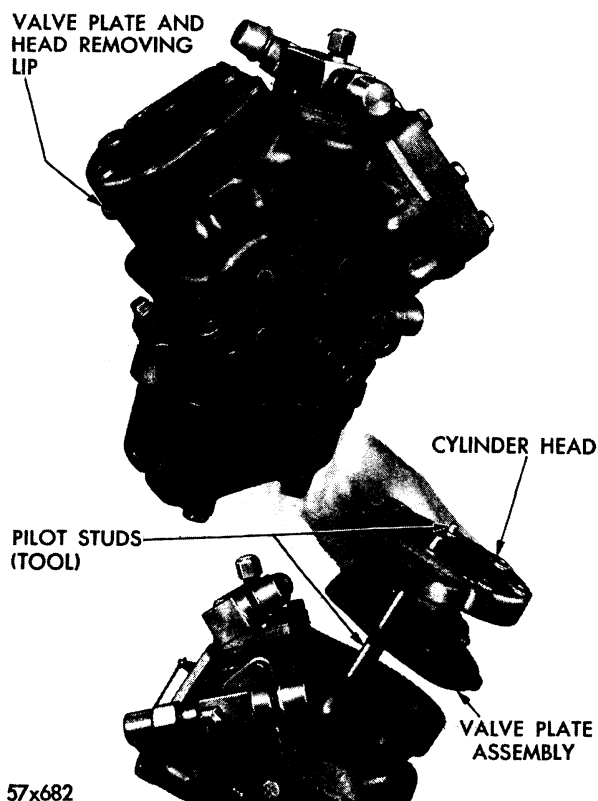

Fig. 23 — Removing Compressor Head
**NOTE:** Use tab (Fig. 23) located at side of cylinder head to tap off head.